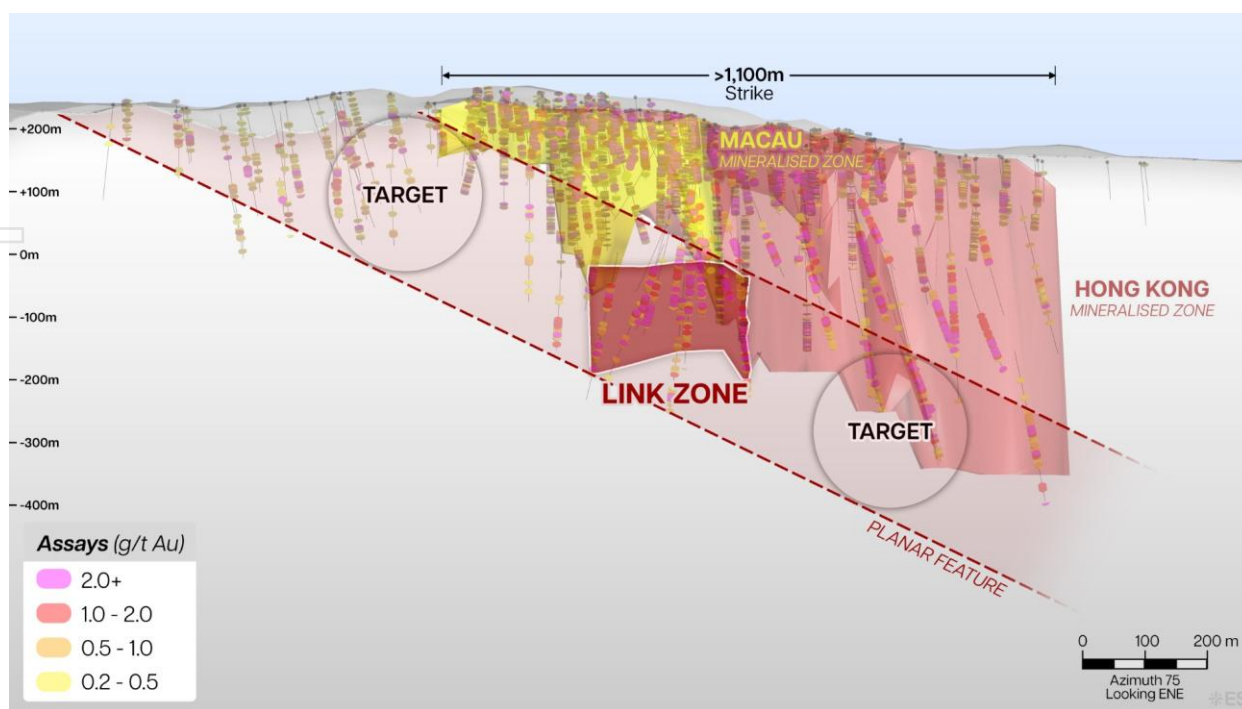

Figure 4: Link zone and plunge and target areas
This interpretation has highlighted other areas within the Spring Hill tenements where additional structures similar to the Link Zone may be present, Exploration will follow up with work to test these areas soon, see Figure 4.
- Targeting additional Link-style mineralisation across the project as shown in Figure 4